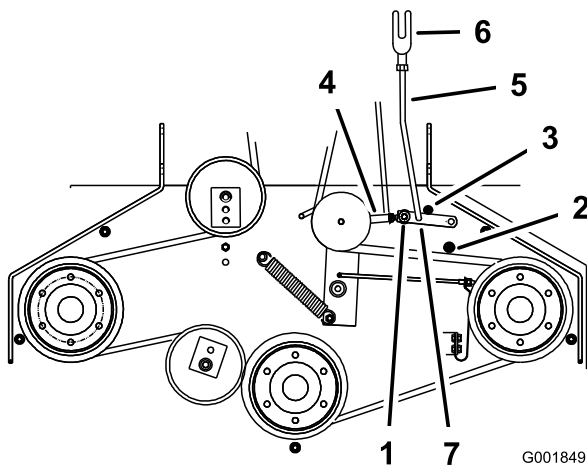

Figure 43
5. Make sure the assist arm is against the rear assist arm stop on the deck (Figure 43).
7. The assist arm should contact the front assist arm stop on the deck. If it does not contact, adjust the bellcrank so it is closer to the gusset (Figure 43).
8. To adjust the assist arm link, remove the hairpin cotter pin from the assist arm (Figure 43).
11. Install the assist arm link into the assist arm and secure it with the hairpin cotter pin (Figure 43).